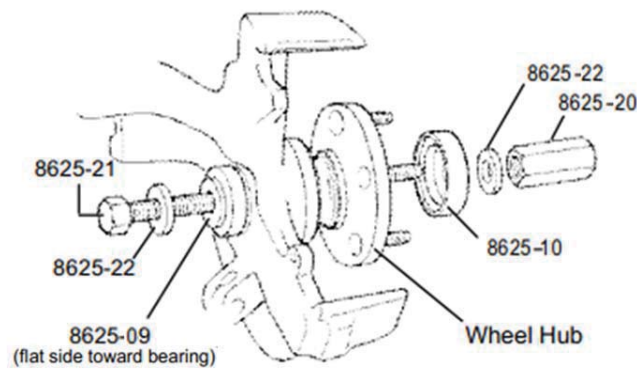

Figure 7
6. Assemble the tool components as shown in Figure 7. and install the hub.